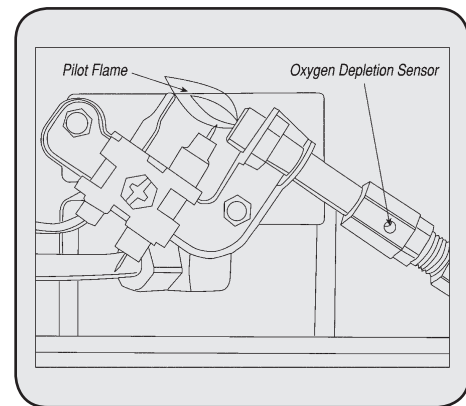

Figure 5
- Visually inspect the pilot flame and burner periodically during use. The pilot flame should be blue in color (not yellow) and will extend to the thermocouple. The flame will surround the thermocouple just below the tip. See Figure 5.
2. Remove (4) four screws that secure the rear cover (ref. # 7) to the heater.
4. Remove (4) four burner retaining screws and fuel line from burner assembly. Remove burner assembly (ref. # 16) from back of housing.
6. Inspect and clean main burner orifice (threaded into orifice holder). Orifice holder (ref.# 19) is attached to the burner assembly venturi with (2) two screws.
7. Inspect and clean pilot (mounted to bracket) by using a vacuum or apply air pressure through the holes in the pilot indicated by the arrows in Figure 5.